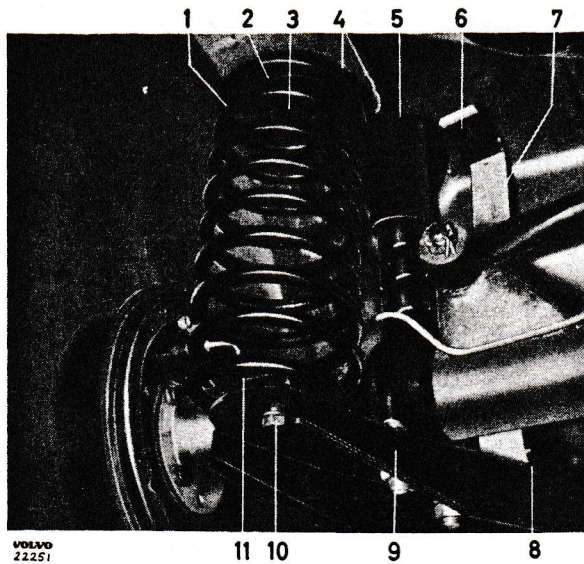

Fig. 3. Rear spring fitted.
3. Disconnect the shock absorbers (5, Fig. 3) from the attachment in the rear axle housing.
4. Disconnect the shock absorber band (7) from its attachment on the axle support arm (9).
The shock absorbers on the PV 544, 444 are hydraulic, double-acting and telescopic. Bands are fitted between the support arms and body. These prevent damage to the shock absorbers by limiting wheel travel downwards. Wheel travel upwards is limited by rubber blocks. On early production cars, the bands were fitted behind the springs while on late production cars, they are fitted in front of the springs (7, Fig. 3).